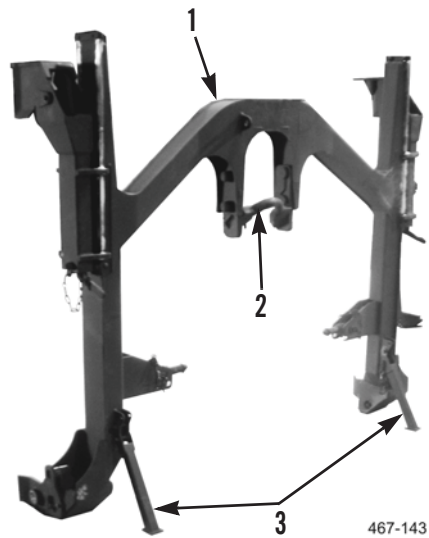

Figure 19. Lift Frame.
1. Attach sling and lifting device to bail bar (Figure 19, Item 2) on lift frame (Figure 19, Item 1).
2. Use lifting device to slowly raise lift frame (Figure 19, Item 1) until it is off ground and fully supported by lifting device.
3. Use lifting device to slowly lower lift frame (Figure 19, Item 1) until supported by stands (Figure 19, Item 3).